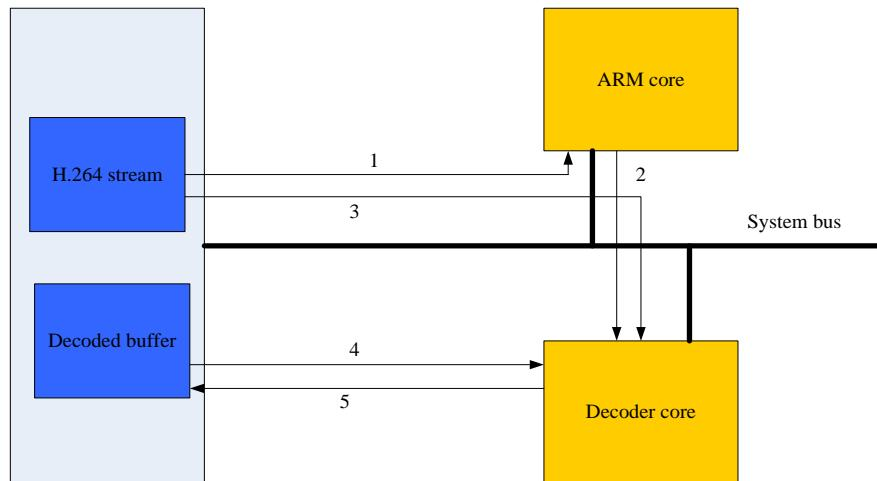

Fig. 4-4 Dataflow of HW performs entropy decoding in video decoder
The dataflow of HW performs entropy decoding is as Fig. 4-4 shown. The decoder software (SW) starts decoding the first picture by parsing the stream headers (1). Software then setups the hardware control registers (picture size, stream start address etc.) and enables the hardware (2). Hardware decodes the picture by reading stream (3) and the reference pictures (required for inter picture decoding)(4) from the external memory. Hardware writes the decoded output picture to memory one macroblock at a time (5). When the picture has been fully decoded or the hardware has run out of stream data, it gives an interrupt with a proper status flag and provides stream and address for software to continue and returns to initial state.